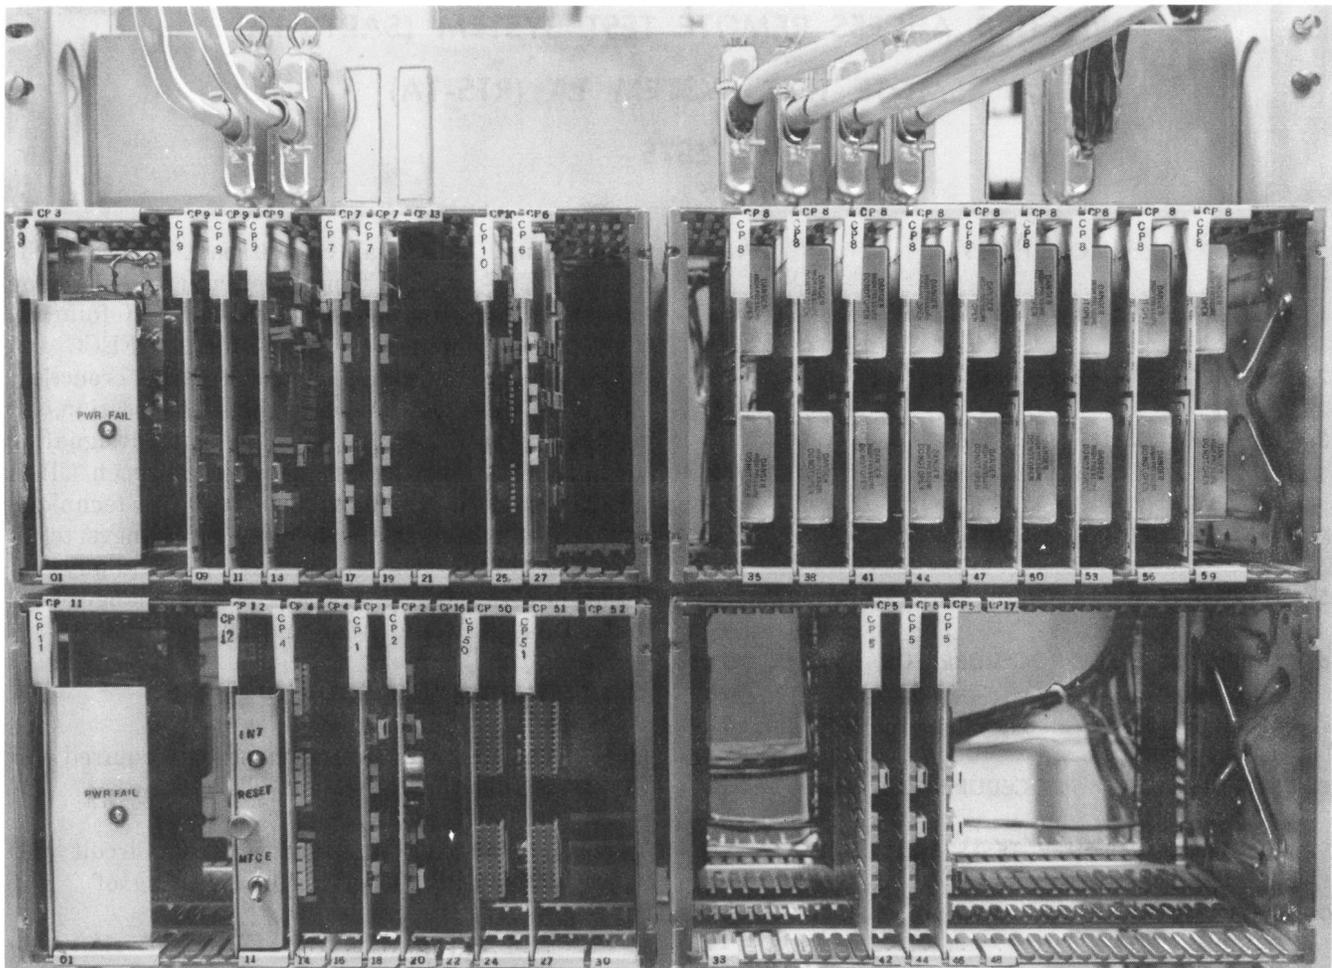
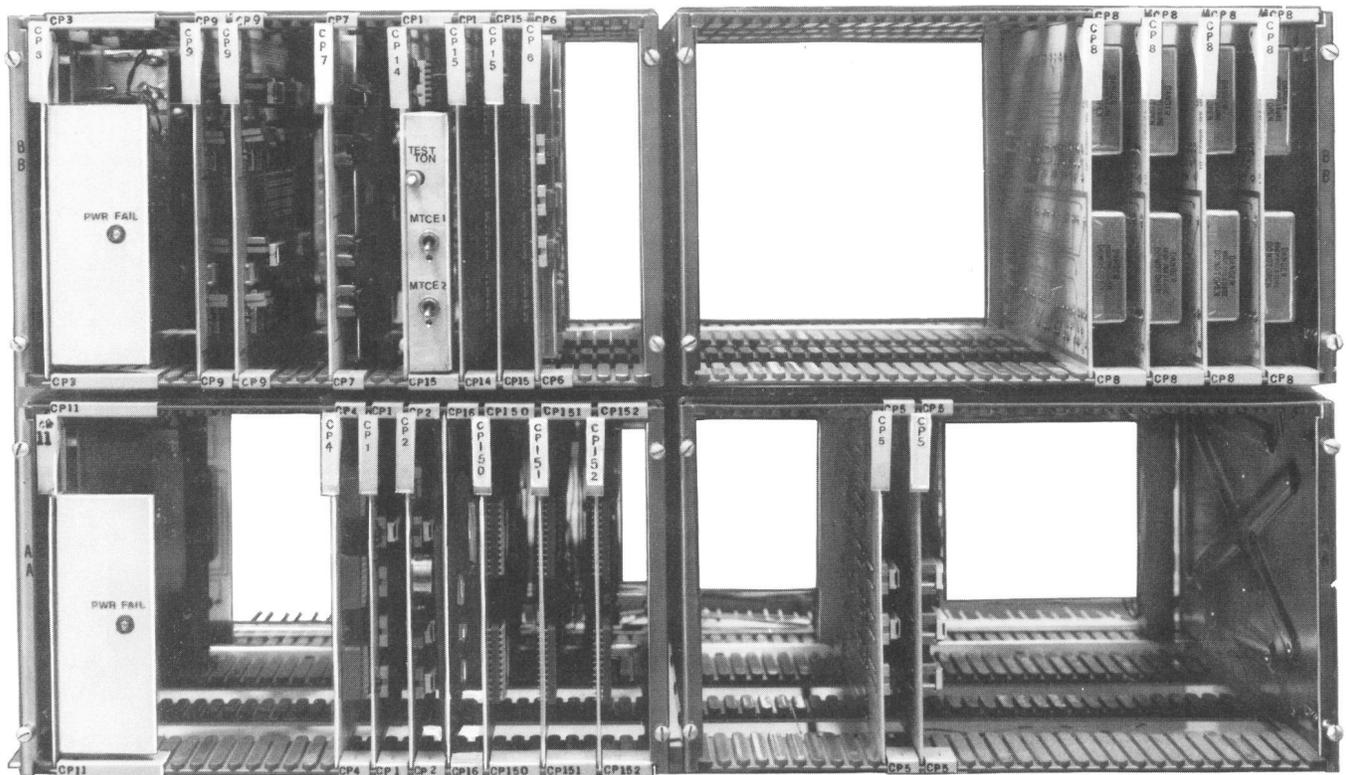

Fig. 1—Far-End Control Circuit
Fig. 2—Test Function Control Circuit
1.03 The test procedures are for the Far-End Control Circuit (FECC) (Fig. 1), the Test Function Control Circuit (TFCC) (Fig. 2), the RTS-1A controller, the Remote Access Test Port (RATP), and the Test Register and Outpulsing Circuit (TROP).